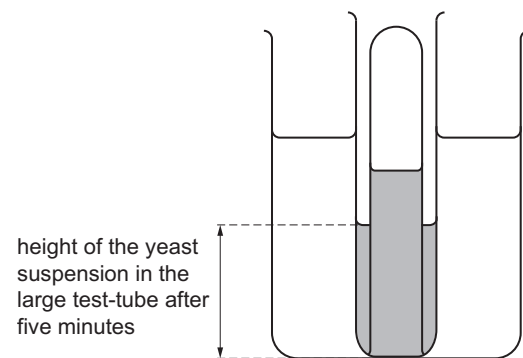

Fig. 1.2
Step 8 After five minutes, stop the stop-clock and use a ruler to measure the height of the yeast suspension in the **large** test-tube, as shown in Fig. 1.2.